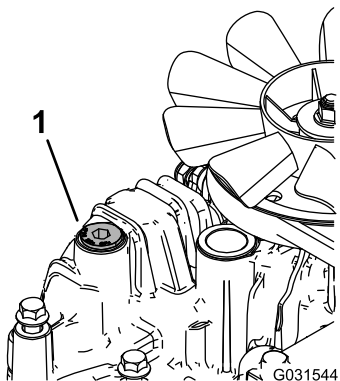

**Figure 72**
5. Locate the drain plug in the bottom of each transmission and place a drain pan under the plugs (Figure 72).